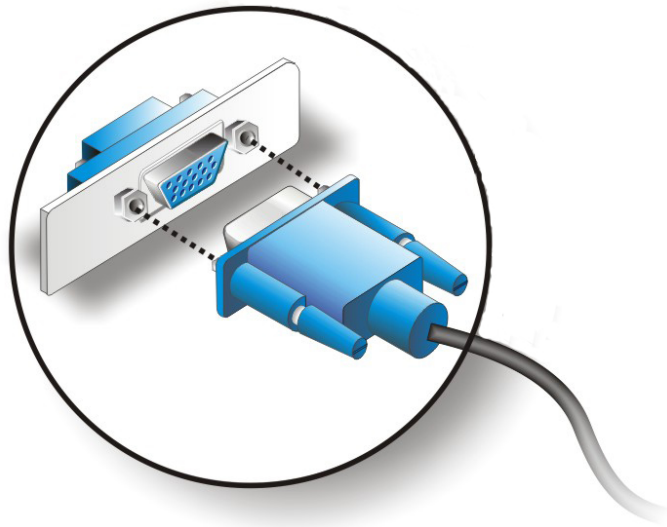

Figure 5-16: VGA Connector
Step 3: **Insert the VGA connector.** Once the connectors are properly aligned with the insert the male connector from the VGA screen into the female connector on the 3308490. See **Figure 5-16**.